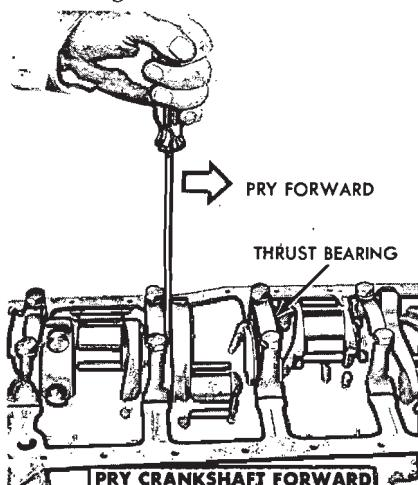

FIG. 62—Aligning Thrust Bearing
13. Pry the crankshaft forward against the thrust surface of the upper half of the bearing (Fig. 62).